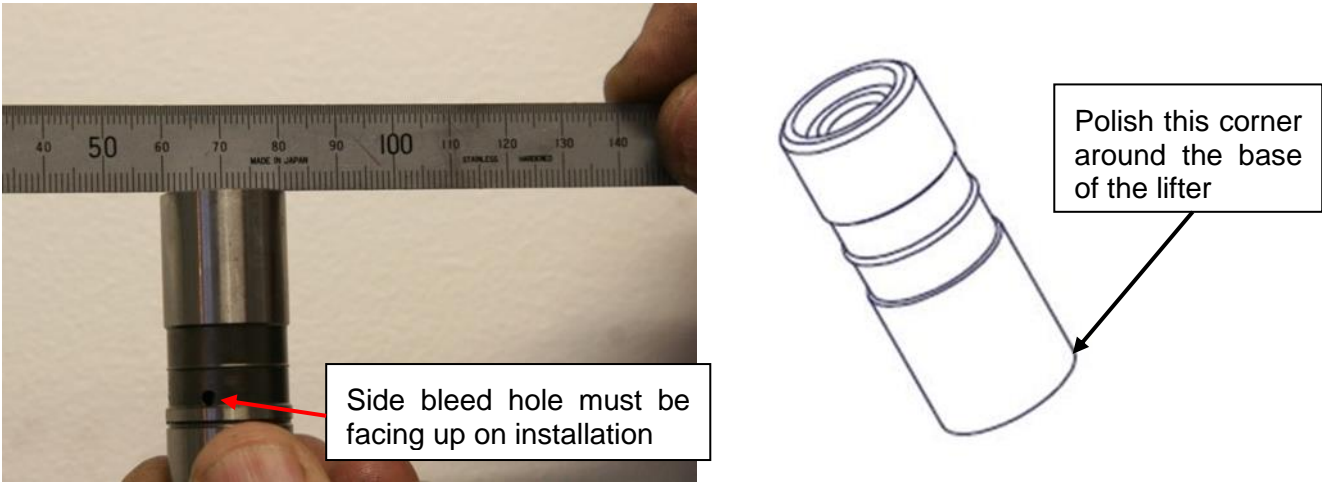

Figure 76 – Hydraulic Lifter Inspection
- If hydraulic lifters are removed for servicing they must be inspected for wear on the camshaft contact face. Note that the lifters have a slightly convex (dome-shaped) base. A straight edge placed over the base (Figure 76) should not quite sit flat on the base – a small gap must be visible at either side. A lifter which has worn flat must be discarded. The lifter must also be replaced is there is any other adverse wear of the lifter base – such as galling or pitting of the working surface.